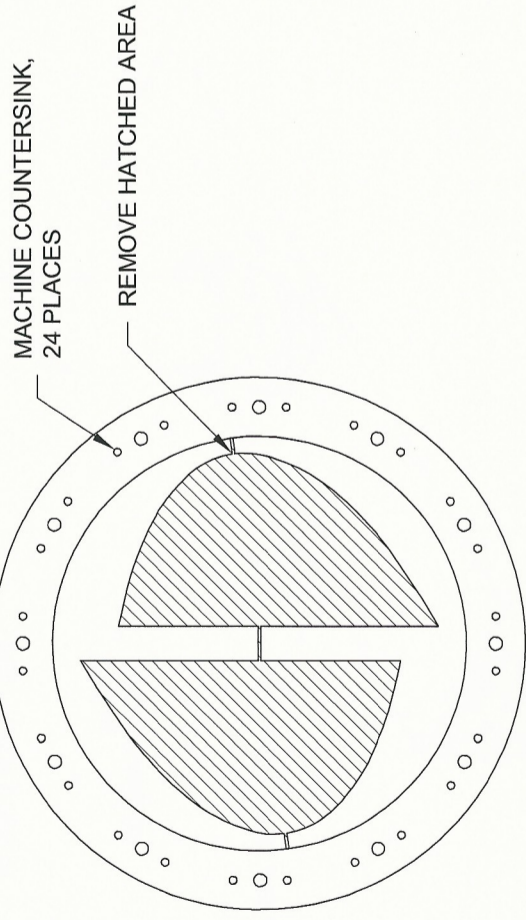

FIGURE 1: T-407/410
Step 2: Remove and discard the area shown in Figure 1 hatched from the T-407 Ring.